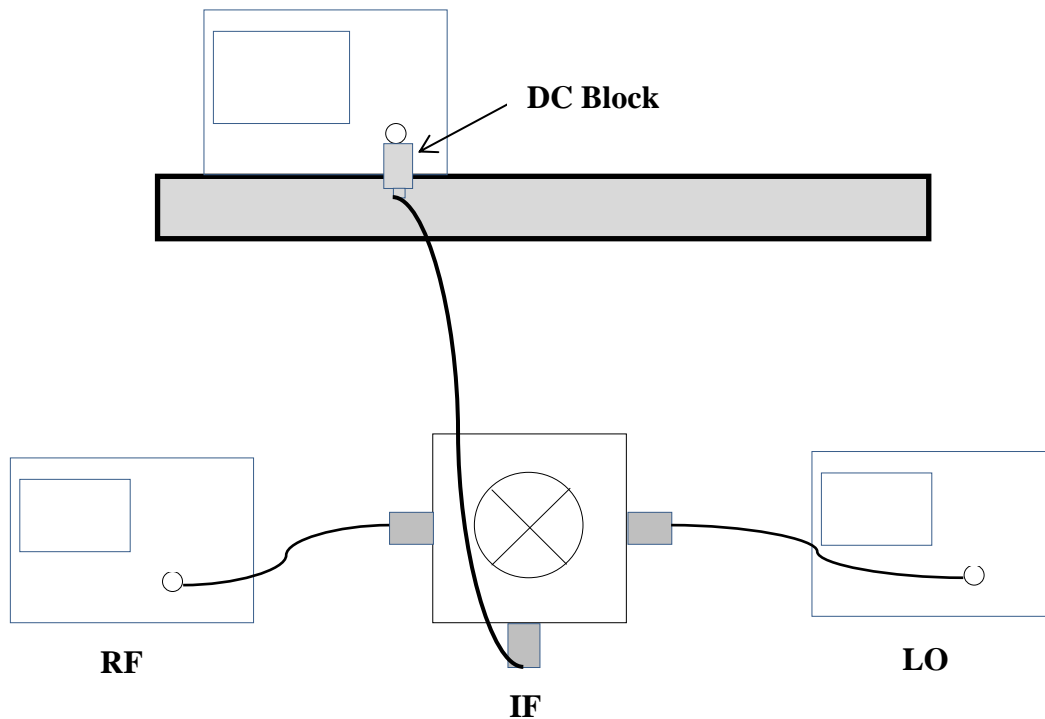

Figure 7: Measurement Setup
1. Connect the mixer into the system. The input cable from the RF VNA should attach to the R port of the mixer, the output cable assembly should be attached to the I port of the mixer and to the SA input, and the LO VNA should be attached to the L port of the mixer as shown below in Figure 7.